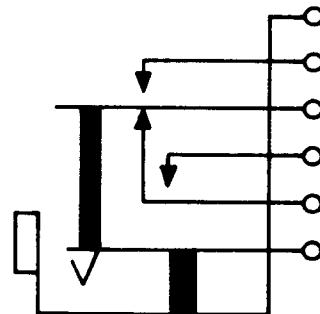

Fig. 7—462A Jack
2.07 462A: This single-mounted jack (Fig. 7) is heavily insulated and is used with the 347 or similar-type plug.